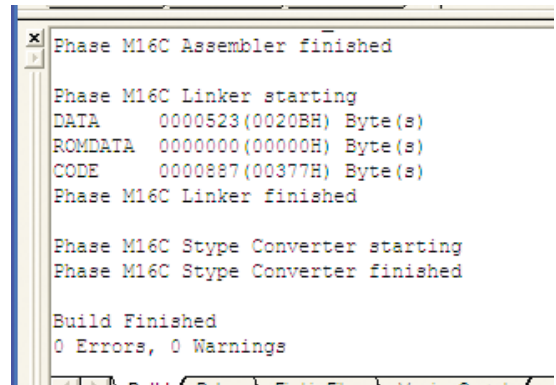

Figure 3. HEW with the skptestR8C project compiled
- g) Click the “Build” icon,  , to compile, assemble and link the project. HEW will look similar to Figure 3.